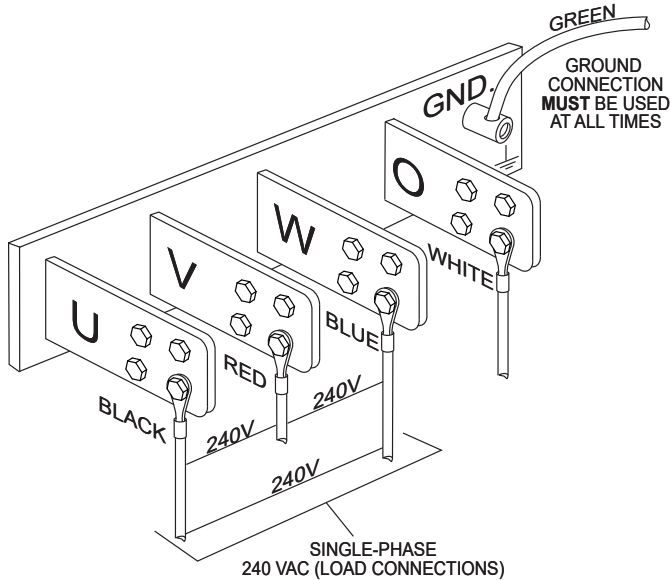

Figure 26. Voltage Regulator
3. Turn the **voltage regulator** (Figure 26) clockwise to increase voltage output as needed. Turn counterclockwise to decrease voltage output.
2. Adjust the voltage regulator (Figure 26) for an output of 208 volts to obtain 120 volts at the UVWO terminals.